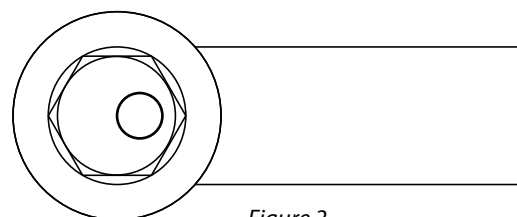

Figure 2
N.B. For maximum negative camber, position the offset hole of the sleeve towards the outside of the vehicle as shown in Figure 2.